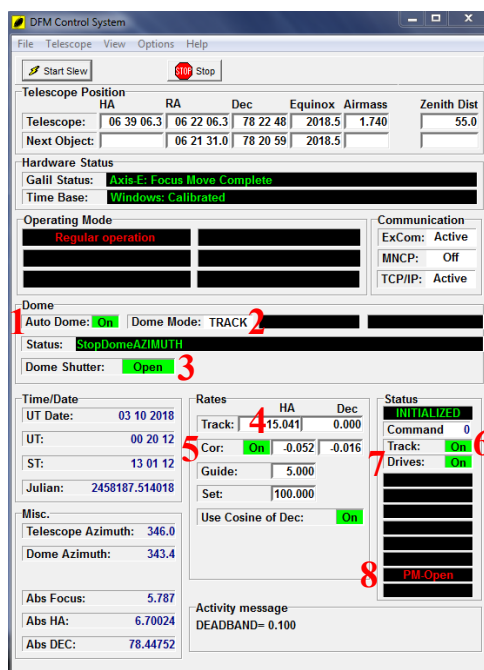

Fig. 2.15. The TCS window under regular operation of the telescope and the dome.
- iv. In the same window press the “Open mirror doors” button (No 5). The mirror doors need approx. 2 min to open. Click on the “Close” button to close the window (No 6). In the meanwhile the message “PM-closed” disappears. Once the mirror doors are open, a message “PM-Open” appears (Fig. 2.15 No 8). If the latter message does not appear constantly, check section 8.2.